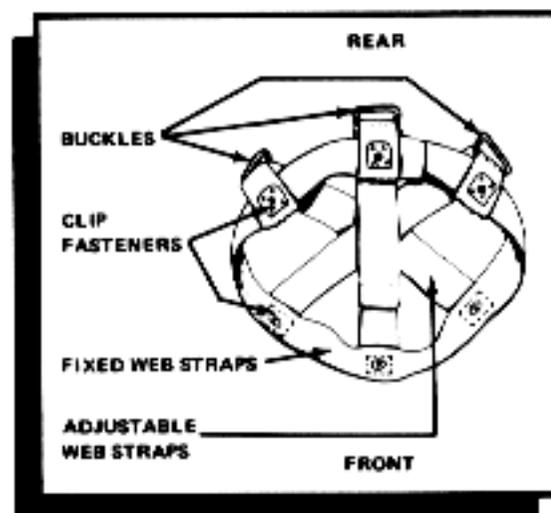

Figure 2-17. Liner suspension system.
**Liner suspension system.** The helmet liner suspension system, sometimes called the cradle (figure 2-17), is made up of three adjustable web straps. Each strap has a buckle for adjusting the liner to the proper height on your head. The liner may be issued with a fixed or detachable suspension system. The fixed system is attached with rivets. The